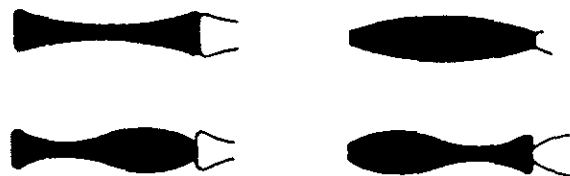

Fig. 27 Incorrect waveform examples
2. If the waveform varies as shown in Fig. 27, adjustment becomes required.